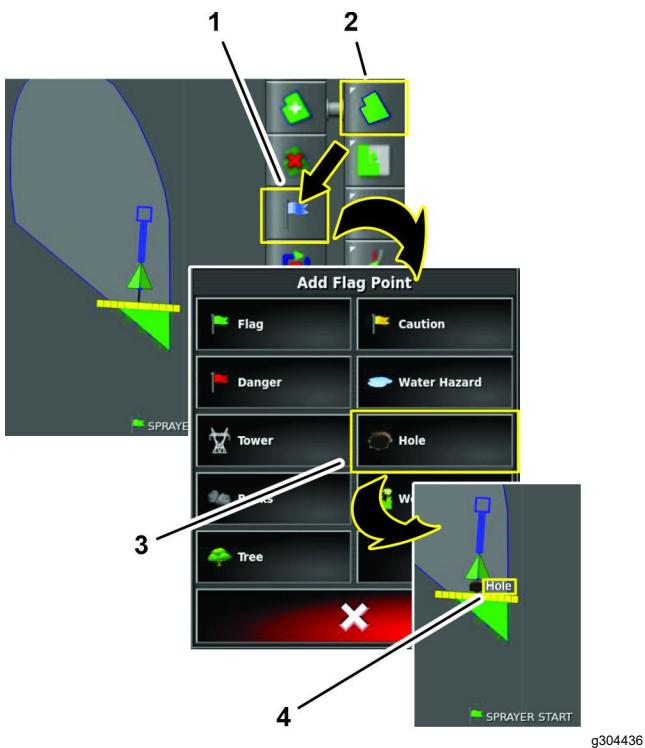

Figure 79
2. Press FIELD MENU icon and the SET FLAG POINT icon (Figure 79).
3. In the add flag point menu, select a flag point icon (Figure 79).
The flag point displays in the control console behind the vehicle (Figure 79).